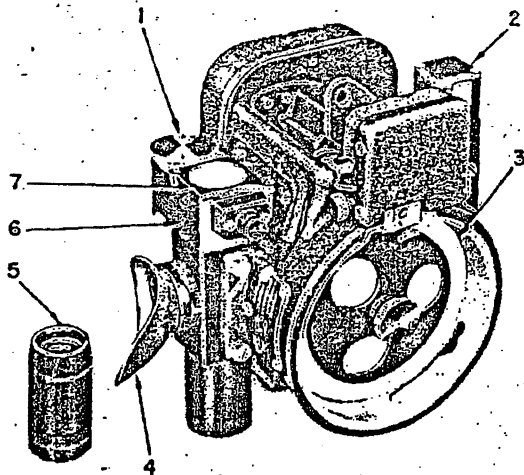
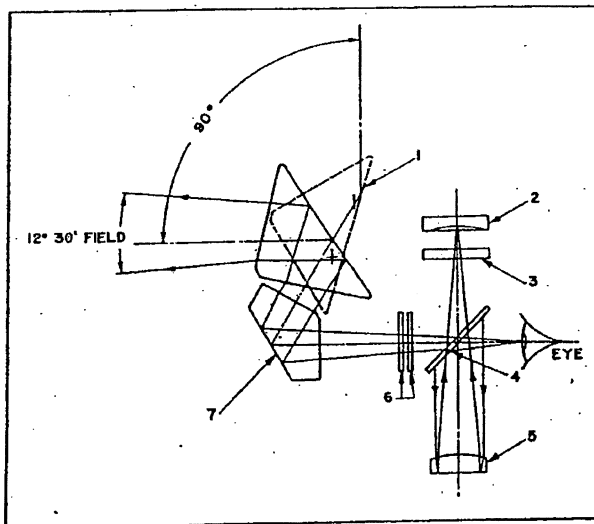

Figure 2—Right Side View
Figure 9—Optical Diagram
(See figure 2.)
KEY TO FIGURE 2
c. OPTICAL SYSTEM. (See figure 9.)—The movable field prism (1) receives the rays of light from the celestial body that is being observed and transmits the rays to the fixed prism (7), which in turn transmits them to the eyepiece for observation. By looking past the open edge of the fixed prism (7), the natural horizon and the field may be viewed at one and the same time if the instrument is not tilted from the vertical. The field prism (1), which is mounted on the sector, revolves through an arc of 45 degrees, deflecting the line of sight 90 degrees, the deflection being shown by the counter. The objective lens (5) and the reflector (4) in the glass chamber housing function jointly to superimpose the image of the bubble in the center of the field of view, thereby creating the artificial horizon.
q. BUBBLE CHAMBER ASSEMBLY.—The bubble chamber assembly (6, figure 2) is mounted on the glass chamber housing assembly. It is filled with alcohol and comprises the mechanism for forming an air bubble which floats in the fluid in the bubble cell. The top of the bubble cell consists of a dome lens (2, figure 9) and the bottom is glass (3) which enables the image of the bubble to be projected into the optical system. The bubble chamber assembly consists of a diaphragm cell from which fluid passes to a bubble cell, which in turn is connected to a reservoir cell by means of a capillary tube. Tilting as indicated on the bubble chamber and turning the bubble adjusting knob (1, figure 2) clockwise compresses the diaphragm, creating pressure which moves the fluid through the system from the diaphragm cell, through the bubble cell, expelling the air into the reservoir cell and reducing the bubble. Tilting as indicated, and turning the bubble adjusting knob (1) counterclockwise, decompresses the diaphragm, relieving the pressure, which reverses the flow, drawing air from the reservoir cell and enlarging the bubble.
r. SUNSHADE ASSEMBLY.—A sunshade assembly (7, figure 2) which is attached to top of the bubble chamber assembly serves as a light diffusing medium to define more clearly the image of the bubble in the optical system. It can be swung out of position to observe directly the bubble through the dome lens of the bubble chamber assembly.
s. EYEGUARD ASSEMBLY.—The eyeguard assembly (4, figure 2) consists of a rubber eyeguard which is attached to the glass chamber housing by an adapter.
w. TELESCOPE ASSEMBLY.—The telescope assembly (5, figure 2) is interchangeable with the eyeguard assembly at the glass chamber housing. The use of the telescope gives a two-power magnification and reduces the field approximately one-half.
(See figure 9.)
KEY TO FIGURE 9